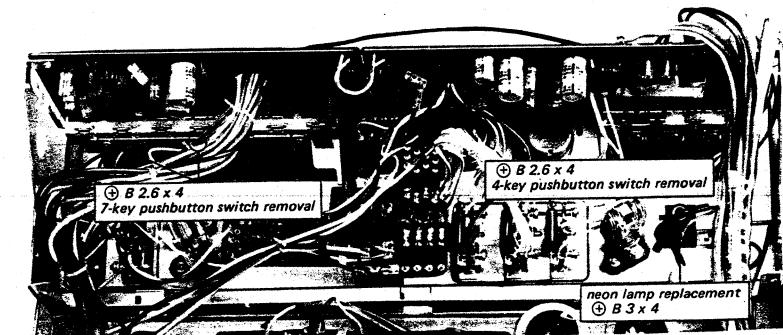

Fig. 2-5. Pushbutton switch and neon lamp replacement
1. Remove the three screws (\oplus B 2.6 x 4) securing the pushbutton switch to the front subchassis as shown in Fig. 2-5.
1. Remove the screw (\oplus B 3 x 4) securing the neon lamp to the chassis as shown in Fig. 2-5.